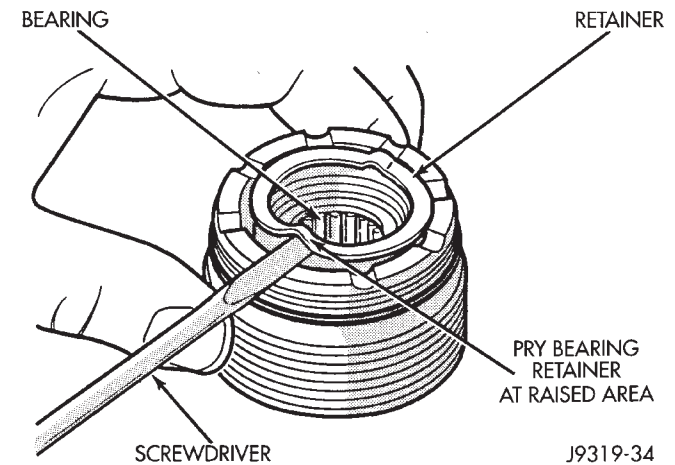

Fig. 20 Remove Retainer
- (3) Remove thrust washer bearing retainer from adjuster plug with screwdriver (Fig. 20).